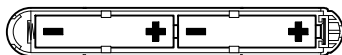

Fig. 6
3. Insert the AAA batteries in the battery compartment (pay attention to correct polarity). Refer to Fig. 6.